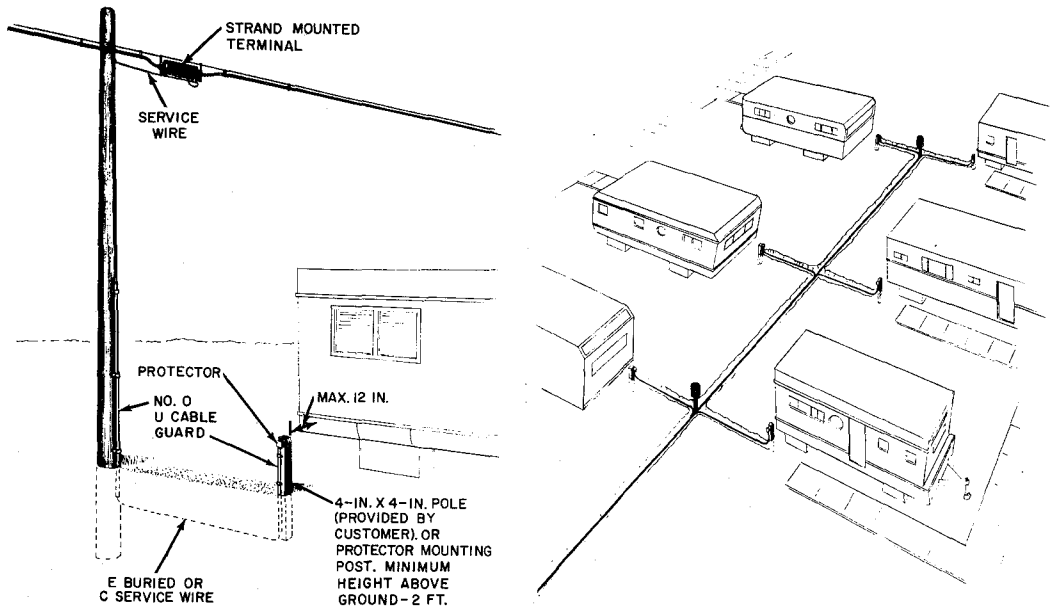

Fig. 1—Typical Buried Service Distribution
2.01 Prior to proceeding with the installation, a preliminary survey of the area should be made. Make shift pole lines and nonstandard clearances should be avoided. If unsatisfactory conditions are found, refer them to your supervisor before proceeding with the installation. Typical service connections to mobile homes are shown in Fig. 1 and 2.
6.01 Service to a mobile home may be a buried service wire or an aerial drop wire (Fig. 1 and 2).